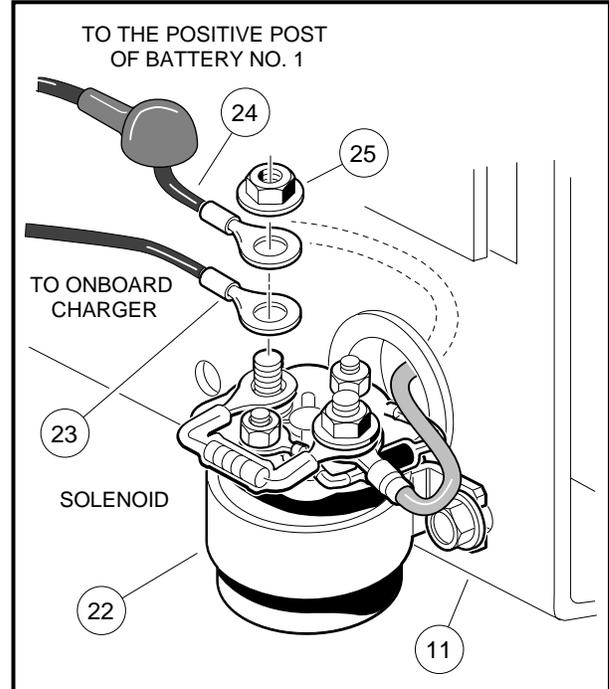

Figure 14-24 Disconnect Red Charger DC Cord
5. Remove 10 gauge red charger DC cord wire (23) from large post of solenoid (**Figure 14-24, Page 14-25**).